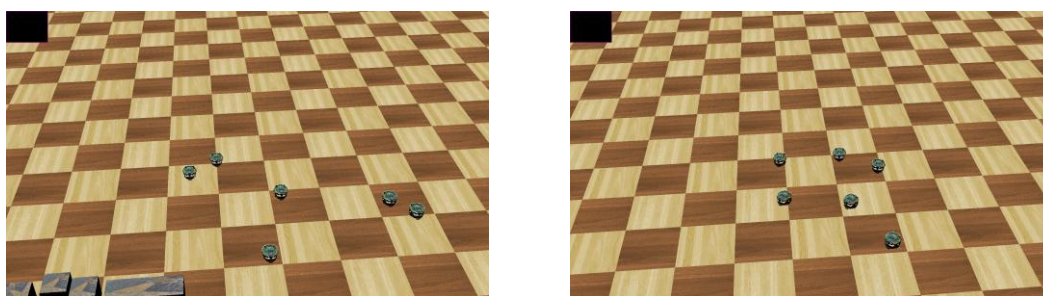

Figure 1. Two snapshots of flocking robots in Webots.
spatially compact group towards a target position. Figure 1 shows an example of this type of behavior.
**S1 (2):** Load *flocking\_reynolds.wbt* in Webots. The robots are controlled by the *reynolds.c* controller. This controller already contains all the necessary functions to run the Reynolds' flocking behaviors. There is a supervisor (named *flocking\_super.c*) which provides absolute positions to the robots using an emitter/receiver module. Compile the controller and the supervisor and run the program (if Webots asks you to create a Makefile, click on OK). You may need to run the simulation in fast mode to understand the collective behavior of the robots. You should be able to see the robots getting together in a flock and move towards one migration goal point (as shown in Figure 1, right). *Note that there is only one unique controller that is run in all robots.* There is no leader or follower for this homogenous flock. Note the “flocking performance” in the output console.